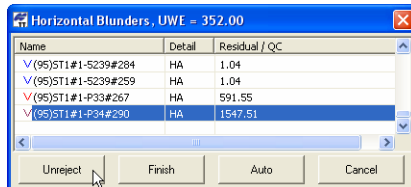

Figure 11-59. Unreject Blunders
- Select a component of the network and click **Reject** to delete from the adjustment process and restart the blunder analysis. Blunders rejected on the previous step are also displayed. To restore the deleted component, select this component and click **Unreject** (Figure 11-59)